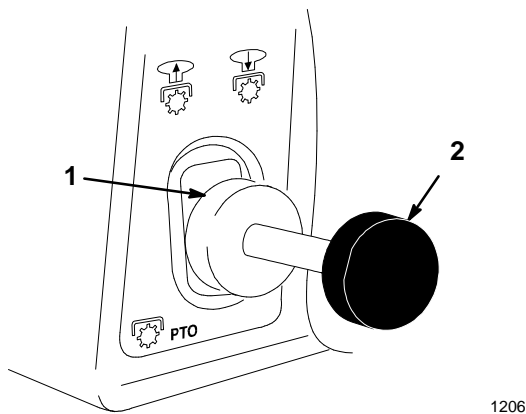

Figure 6
2. Pull the power take off (PTO) to “ON” (Fig. 6).
2. Push the power take off (PTO) to “OFF” (Fig. 6).